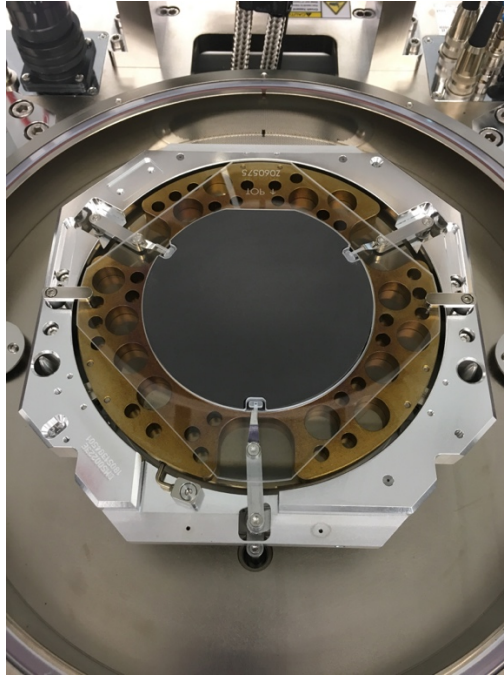

Figure 5: Electrode/inlay inside of clamping glass
- ix. Carefully place graphite electrode (anodic bonding) or titanium inlay (thermocompression bonding) inside of clamping glass. See Figure 5 for example.